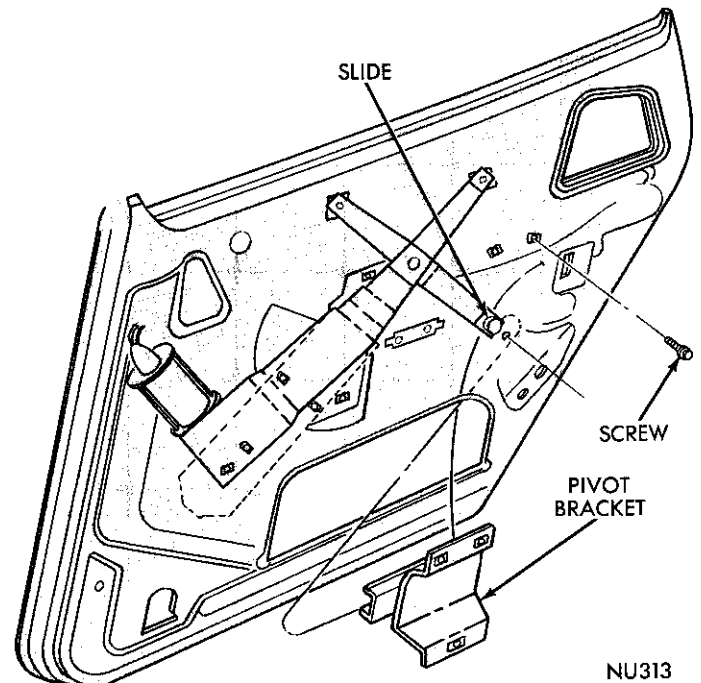

Fig. 56—Pivot Bracket
- (1) Remove the rear door glass.
- (2) Remove pivot support bracket to door inner panel screw assemblies (Fig. 56).
- (3) Slide pivot channel off of regulator arm slide and remove pivot bracket through large access hole.